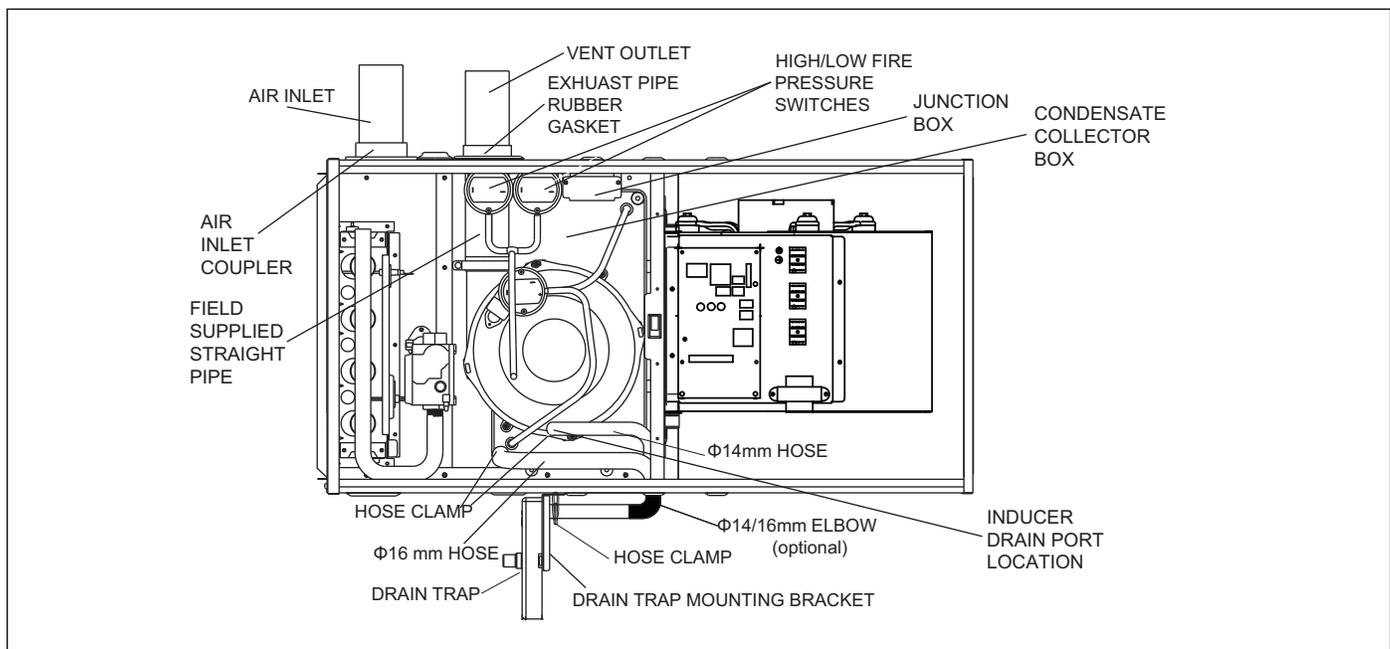

Figure 20 Horizontal Left Side Installation, Vent Through Side Panel
11. Connect 14 mm hose between inducer port and drain trap. See Figure 20.